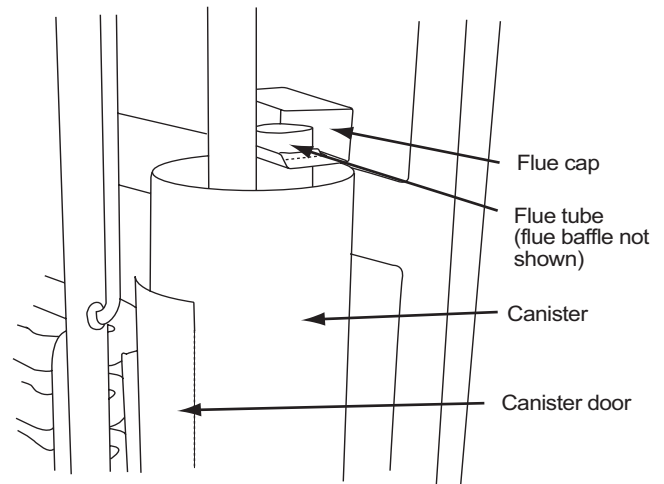

Figure 25. Flue and components
1. Remove the flue cap (see Figure 25).